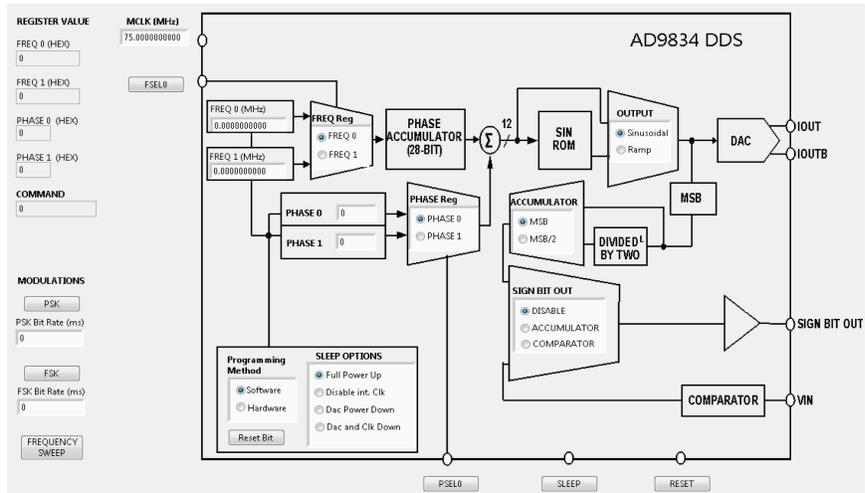

Figure 4. EVAL-CN0304-SDZ Evaluation Board Software
3. Ensure that all links are in their correct locations (see **Table 1**). The main window of the EVAL-CN0304-SDZ evaluation software then opens, as shown in **Figure 4**.